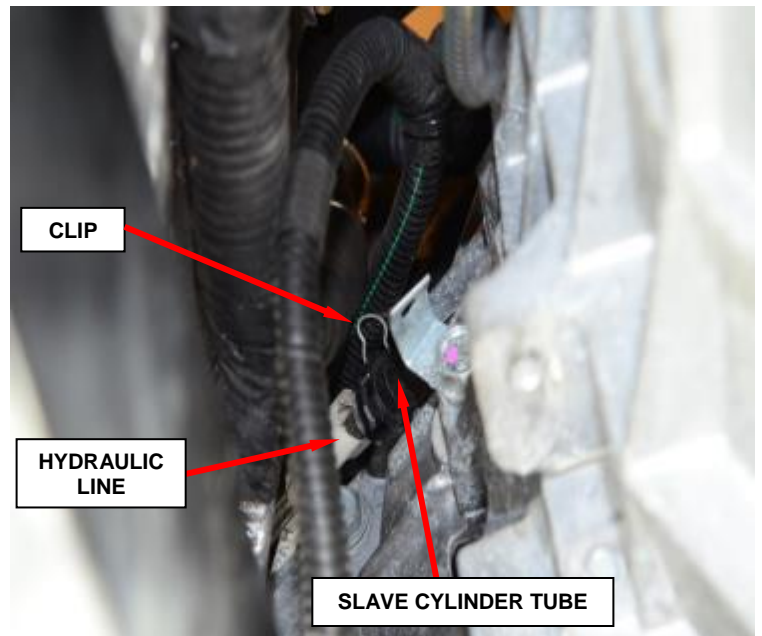

Figure 42 – Slave Cylinder
- b. Disengage the clip holding clutch hydraulic line to the slave cylinder tube (Figure 42).
- c. Pull the hydraulic coupling from the slave cylinder tube. Cover the end of coupler with suitable cap-plug (Figure 42).
- k. Connect the hydraulic clutch quick connector to the clutch release bearing (Figure 42).